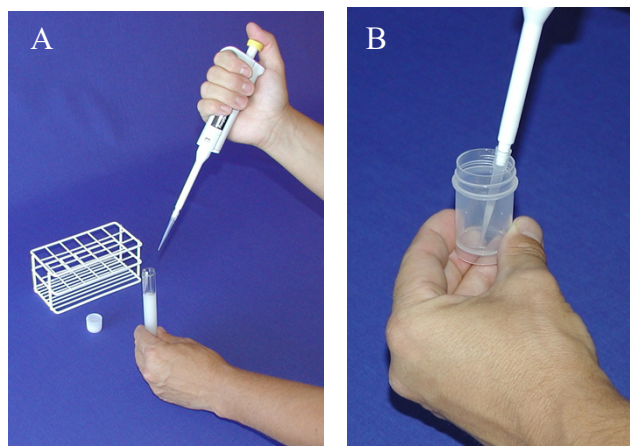

Figure 1. (A) Pipetting of 25 or 50 µl of sample and (B) transferring sample to center area of bottom of a 20 ml or a 35 ml sample cup
- 3A Put a new tip on the pipette and aspirate a representative volume of 50 µl of the sample. Transfer the sample to the center area of the bottom of a 35 ml sample cup. (*cf. figure 1*)
- 3B Put a new tip on the pipette and aspirate a representative volume of 25 µl of the sample. Transfer the sample to the center area of the bottom of a 20 ml sample cup. (*cf. figure 1*)